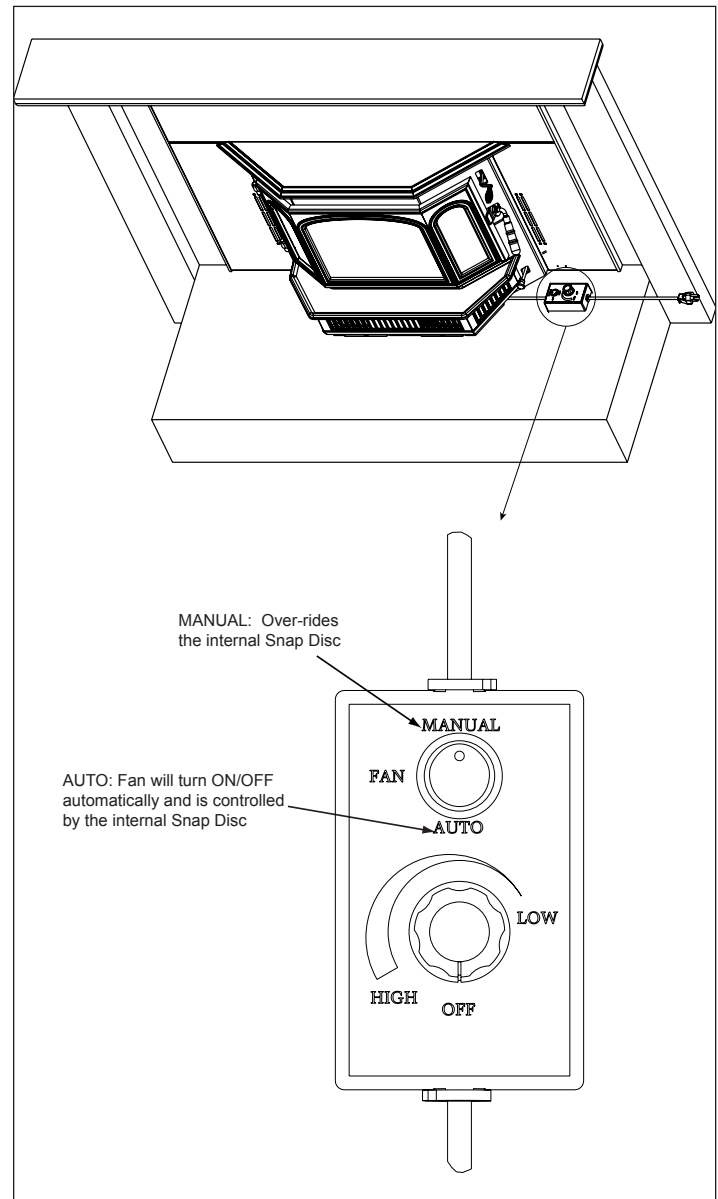

Figure 16.1
1. The blower will turn on/off automatically when set to AUTO. **Figure 16.1.**